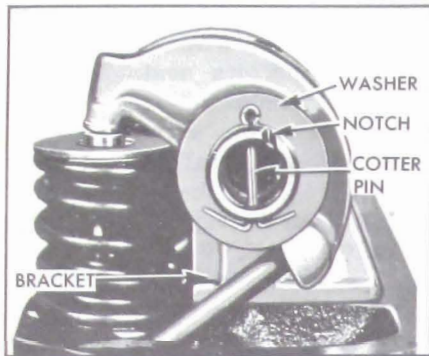

Figure 2-22—Rocker Arm Shaft End View
5. Install bolts with plain washers through brackets and shaft so that the notch on one end of shaft is upward in line with bolt heads. This places the oil holes on lower side of shaft in proper relationship to rocker arms. See Figure 2-22.
(4) Install locking plates with exhaust manifold bolts, tighten bolts only to 10-15 ft. lbs. torque, then bend one tab of plate against a flat on each bolt head.
(5) When rocker arm and shaft assembly is installed, make certain that the notch in one end of shaft is upward in line with bracket bolt heads. See Figure 2-22.
(6) Install intake manifold gaskets so pointed end of each gasket is "IN" toward center of engine.
(7) After installation is completed and engine has been warmed up to operating temperature, recheck cylinder head bolts for 65-75 ft. lbs. torque.